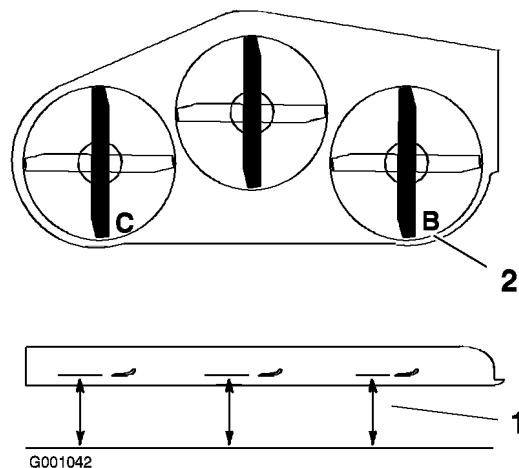

Figure 72
1. Position the right blade front-to-rear (Figure 72).
2. Measure the right blade at the **B** location, from a level surface to the cutting edge of the blade tip (Figure 72).
4. Position the left blade front-to-rear (Figure 72).
5. Measure the left blade at the **C** location (Figure 72), from a level surface to the cutting edge of the blade tip .